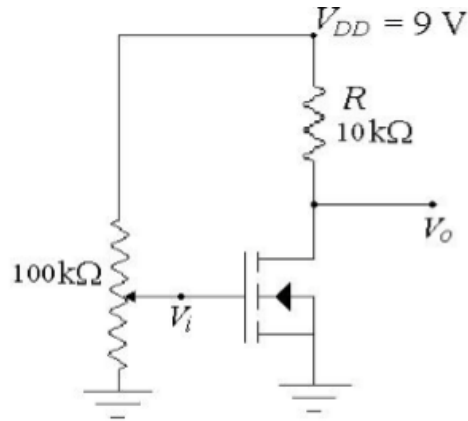

Figure 2 : NMOS inverter with resistive load (Determination of Transfer Characteristics )
- Connect the circuit as shown in Figure 2. Use  $R_D = 10 \text{ k}\Omega$ .